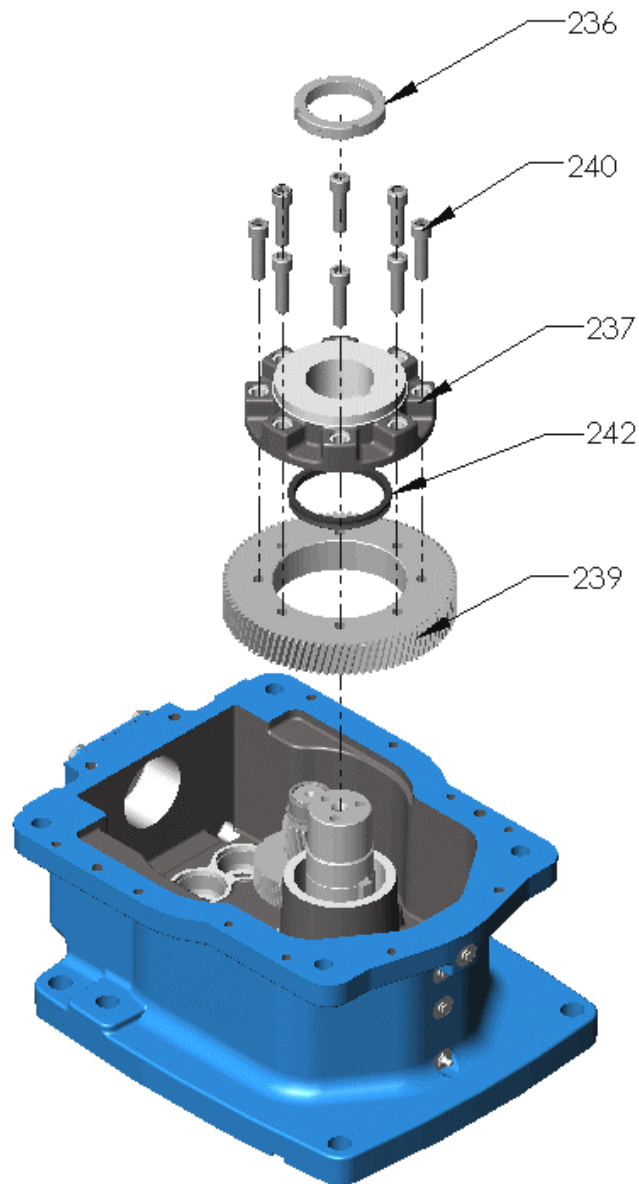

Figure 18 – Gear Carrier
- H. Install V-ring [242] in gear flange [237] and heat flange to 120° C (248° F) (refer Figure 18).
- I. At output shaft [244], install the following items: (refer Figure 18).
- J. Lift gear [239] to engage tenon on the flange and install bolts [240] (refer Figure 18). Make sure the gear is sitting flat on the gear flange. Use feeler gage to check
- K. Torque-tighten bolts [240] to value given in Table 1 (refer Figure 18).